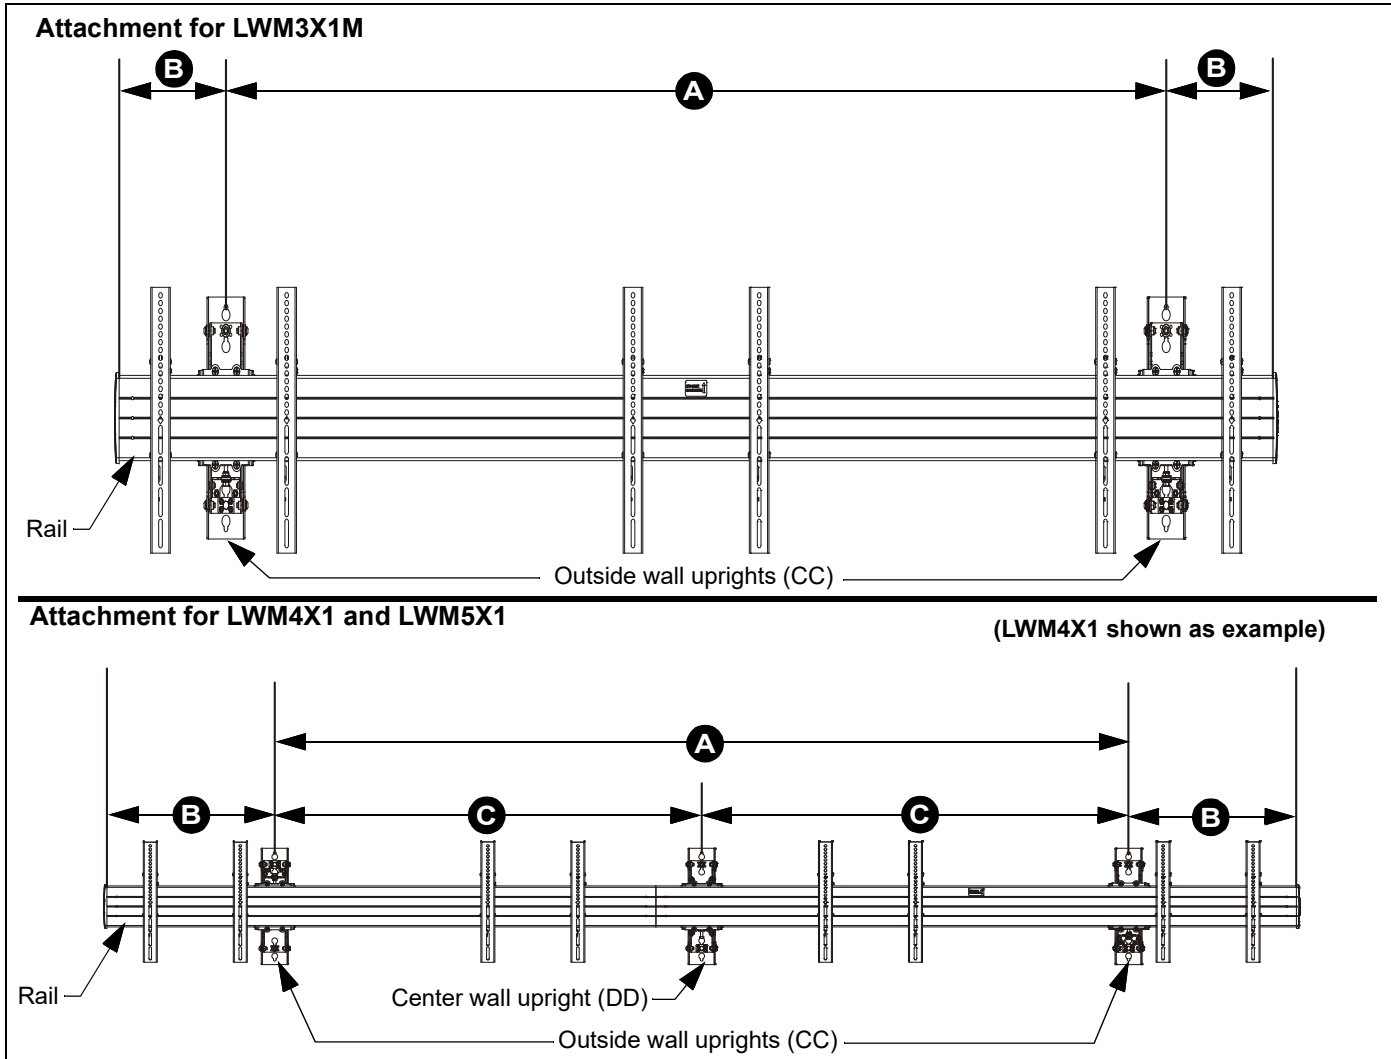
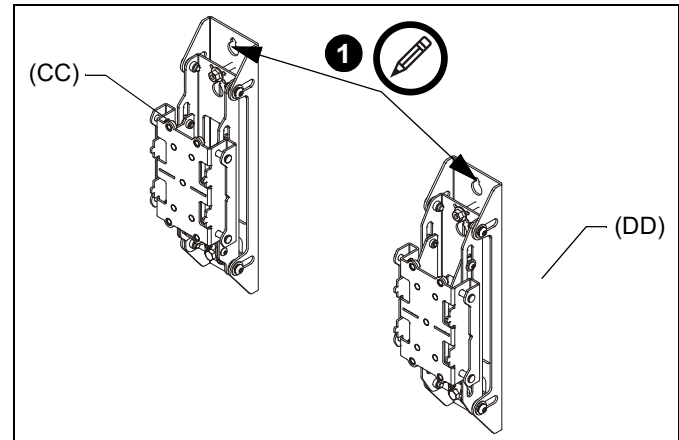

Figure 1
Figure 7
IMPORTANT ! : Reference **Wall Placement Information** section (See Figure 1) and Table 1.
1. Use the outside wall upright (CC) or center wall upright (DD) as a model to mark upper and lower pilot hole placement for 2 outside wall uprights (and center wall upright for LWM4X1M or LWM5X1M models) following wall placement information in Figure 1 and Table 1. (See Figure 7)